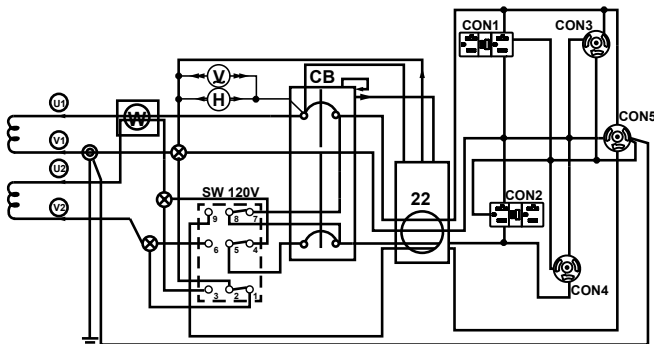
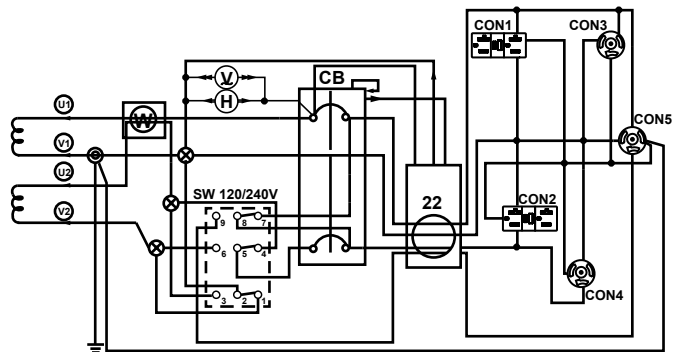

Figure 6. 120V Full Power Switch Simplified Diagram (Up Position)
Figure 7. 240/120V Full Power Switch Simplified Diagram (Down Position)
12. **Full Power Switch** – The generator is provided with a full power switch. Figure 6 and Figure 7 show simplified wiring diagrams of the dual voltage system.